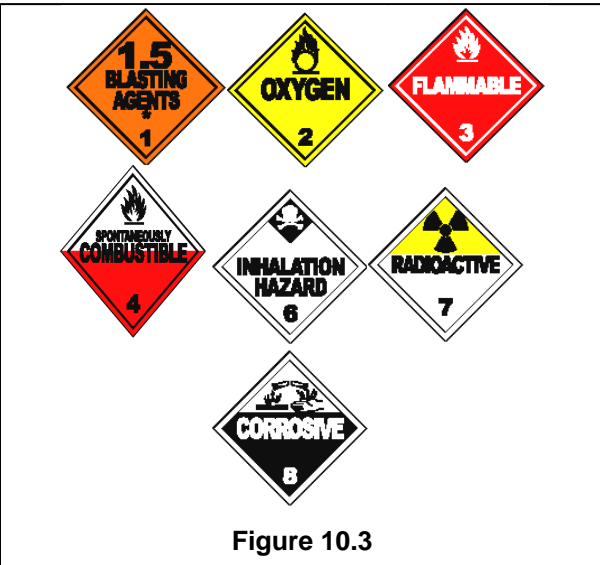

Figure 10.3
**Placards.** Placards are used to warn others of hazardous materials. Placards are signs put on the outside of a vehicle and on bulk packages, which identify the hazard class of the cargo. A placarded vehicle must have at least four identical placards. They are put on the front, rear, and both sides of the vehicle. See Figure 10.3.